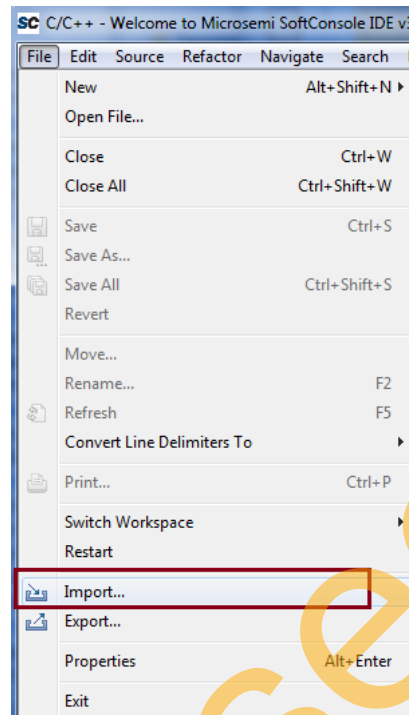

Figure 11 • Import Files
5. Choose **File > Import** in the **SoftConsole** window as shown in Figure 11. The Import dialog box is displayed.